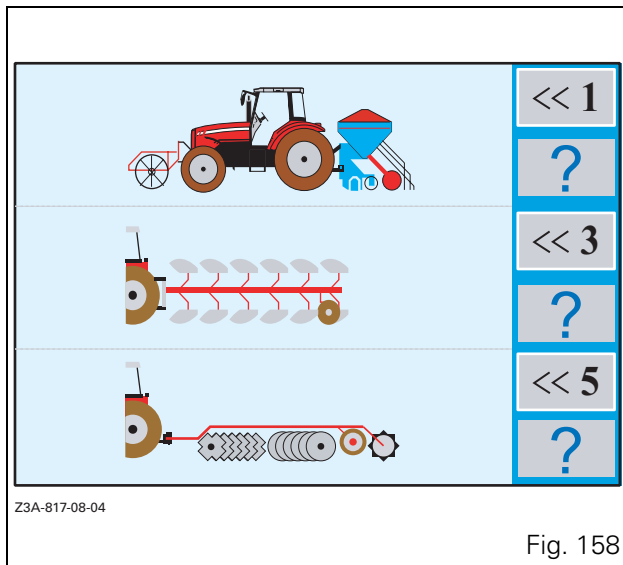

Fig. 158
- press the encoder when the active function is highlighted by red text and a red rectangle around the icon (the window Fig. 158 is displayed).
- to exit an application, press the **ESC** key (2).
When the window (Fig. 158) is open, press the key «1». The window (Fig. 159) is displayed.